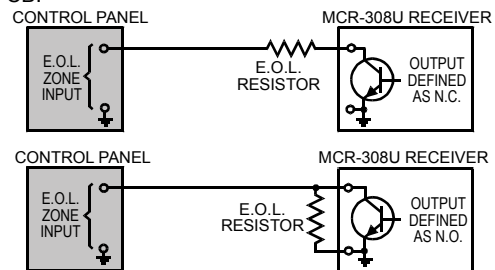

Figure 6. Wiring E.O.L. Zones
- Connect the four status outputs of the MCR-308 (TAMP, INACT, L. BAT and JAM) to the desired zone inputs of the control panel in use. **Note:** If the control panel zone inputs are defined as E.O.L., you must use appropriate E.O.L. resistors (see Figure 6).